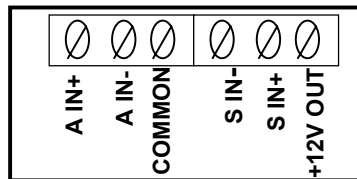

Figure 12
6. Connect a small jumper wire between the **COMMON** and the **S IN-** terminals. Secure the jumper wire in the **S IN-** terminal by turning the terminal's screw clockwise. (Refer to the MX001 box or to Figure 12 for the order of the terminals for the sensor wires.)